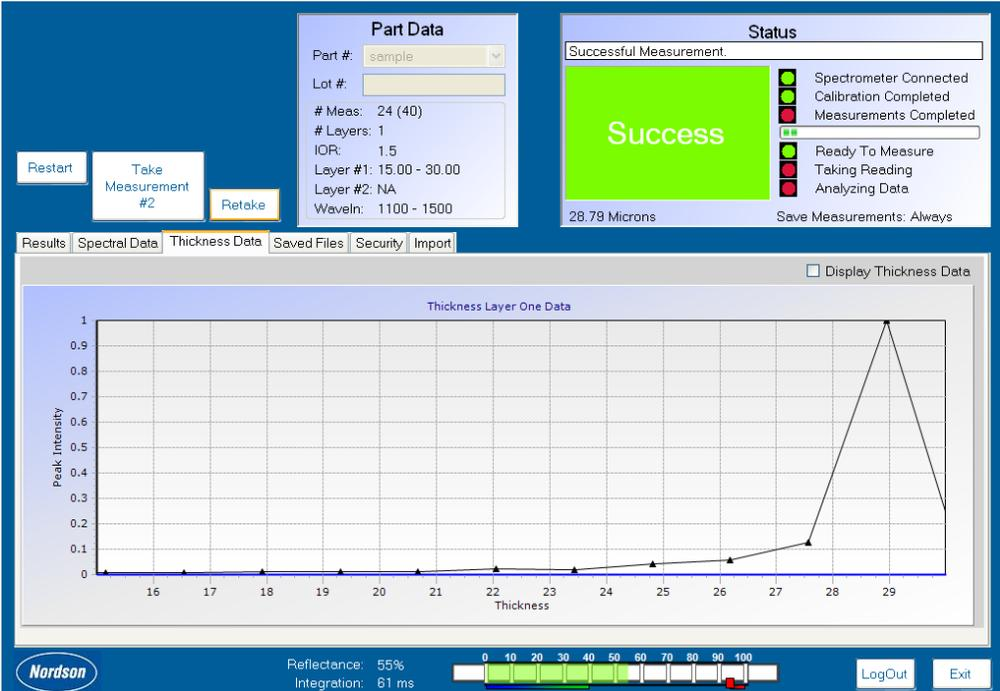

Figure 24 Thickness Data Tab Displayed with True Peak
5. By going back to the *Part Info* tab and changing the *Minimum Thickness* from 1 micron to 15 microns, the true peak is now apparent after the correction, as shown in Figure 24.